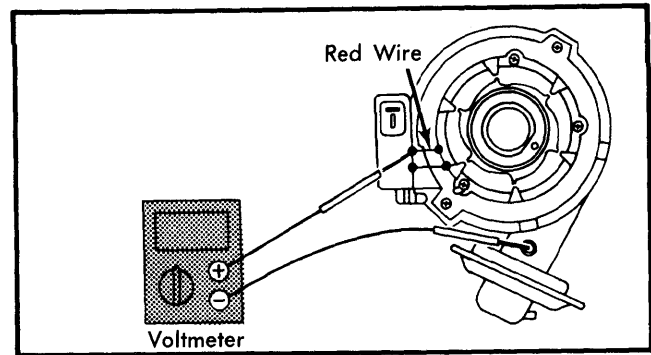

Fig. 12 Voltmeter Hookup for Pick-Up Coil Output Check
1) Engine should be at operating temperature. Connect a voltmeter, set at the low scale (0-5 volt), with positive lead connected to pick-up coil terminal with red wire. See Fig. 12. Attach negative lead to side of distributor.